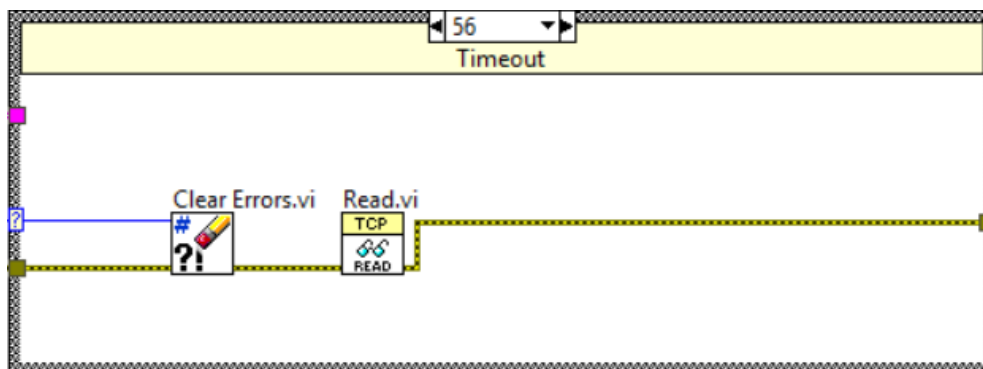

Fig. 3. Part of Error case in the Read case of TCP
- a) Open **Read case** of TCP module and update **Error case** for timeout error (code 56) according to Fig. 3.